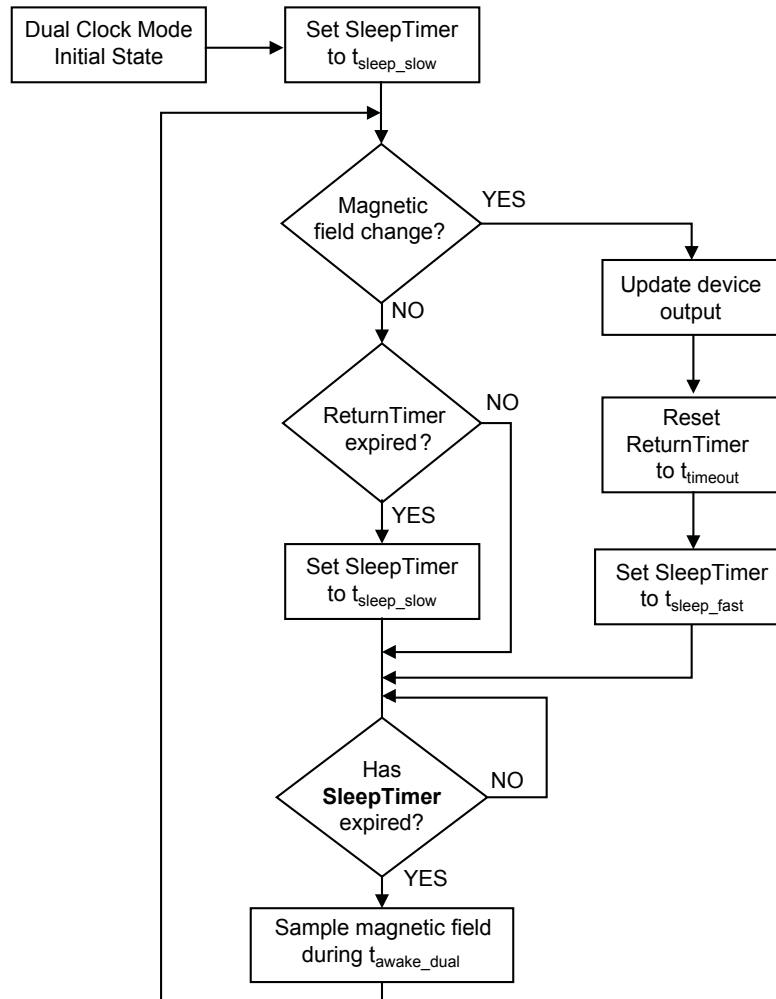

Figure 6. Dual Clock mode operation algorithm
**Dual Clock Mode** When the EXTERNAL\_CLK pin is left floating, or is grounded, and the DUAL\_CLK pin is pulled to a voltage greater than  $V_{th(HIGH)}$ , the device enters Dual Clock mode. Figure 6 gives an overview of the device operation algorithm in Dual Clock mode.